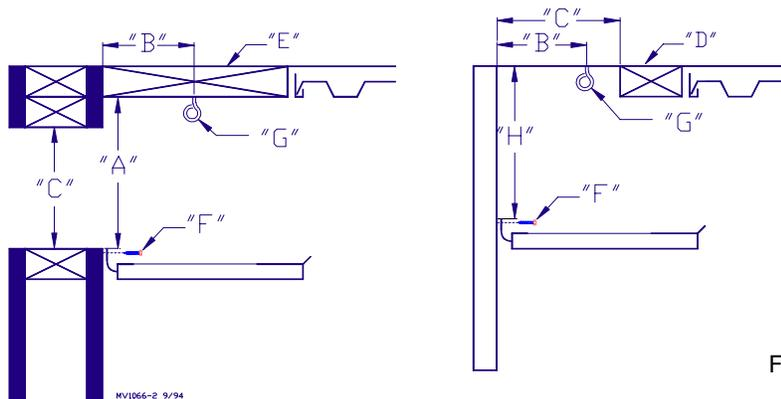

Figure 1.
- Determine if the inlet slot is to be in the ceiling (for attic air) or on the side wall (for outside air). Figure 1 provides information for attic inlet installations and side wall inlet installations.
**Legend: Figure 1**
The screw hooks should be as close as possible (without interfering) to the lip of the baffle sections when they are closed. See Figure 1 & 2.